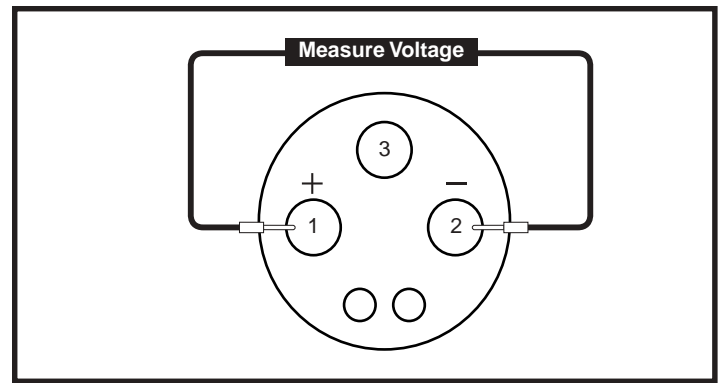
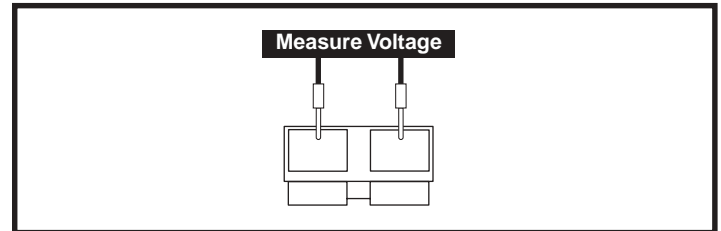

Figure 2. Off-board Charger Socket 1a
Figure 3. Connector 6a
1. Measure voltage across pin 1 (B+) and pin 2 (B-) of the off-board charger socket (1a). **See diagram 2 and figure 2.**
- If your multimeter indicates about 25VDC (with correct polarity), then replace the Q-Logic joystick (1) and retest the system.
5. Measure voltage across pin 1 and pin 2 on connector 6a. **See figure 3.**